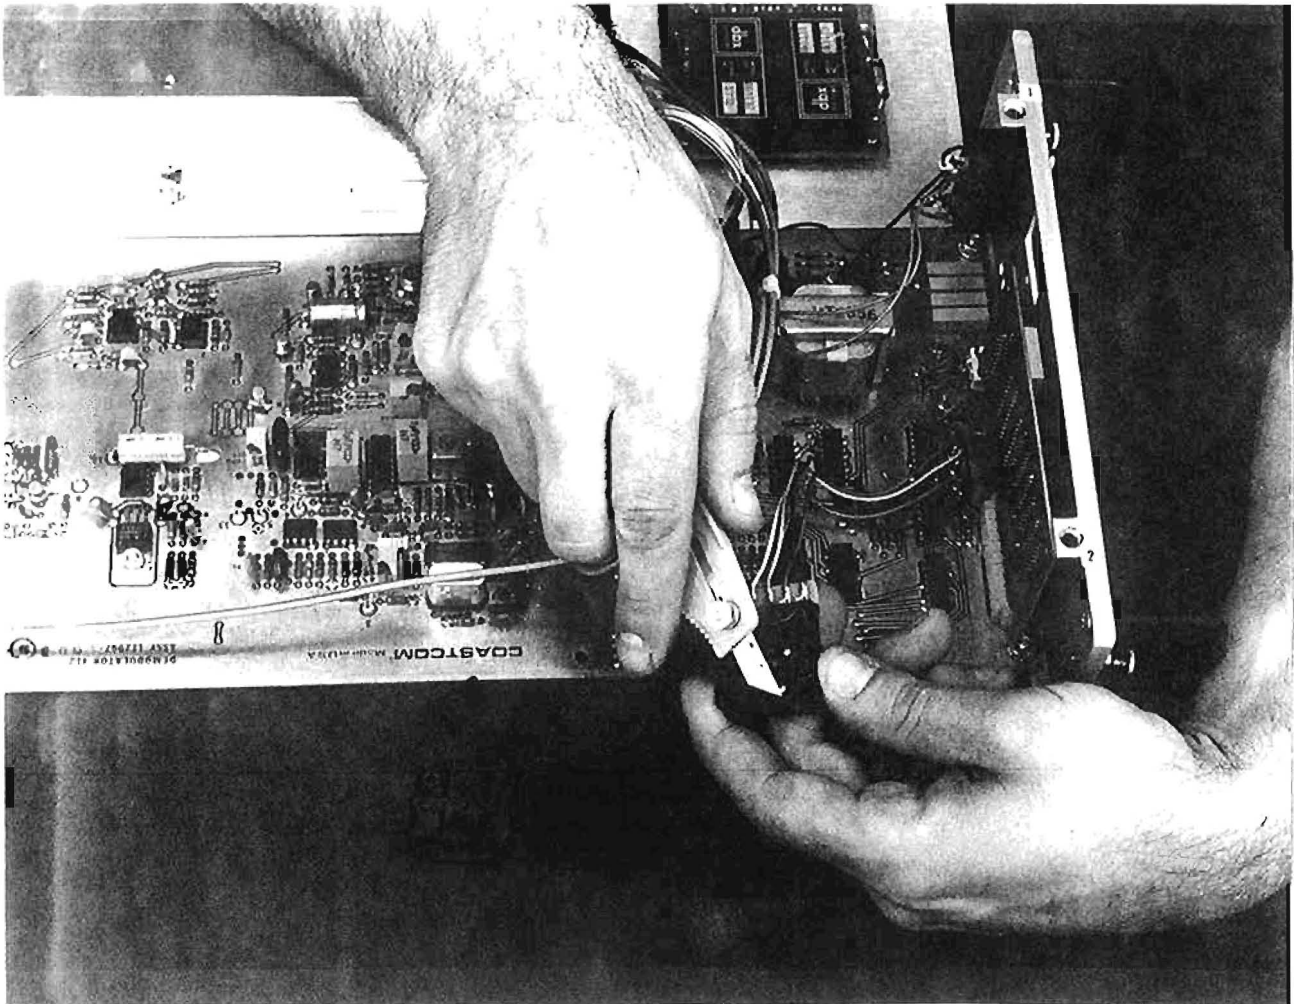

FIGURE NO. 8
- 8) Remove the two (2) side pieces of the switch. Holding the switch center section with the printed circuit side away and down from you, you will see two small silver colored pin heads. Using a razor blade, or thin knife blade, pry under the head of the pin and remove them. The thumbwheel should now rotate completely around showing all the numbers from zero through fifteen. Refer to figure No. 8.